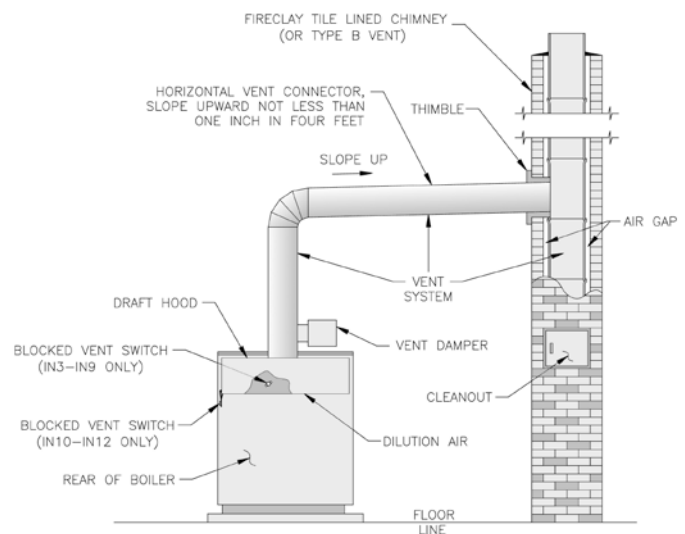

Figure 30: Typical Vent Installation
D. Install Vent Connector from draft hood or vent damper to chimney. See Figure 30.